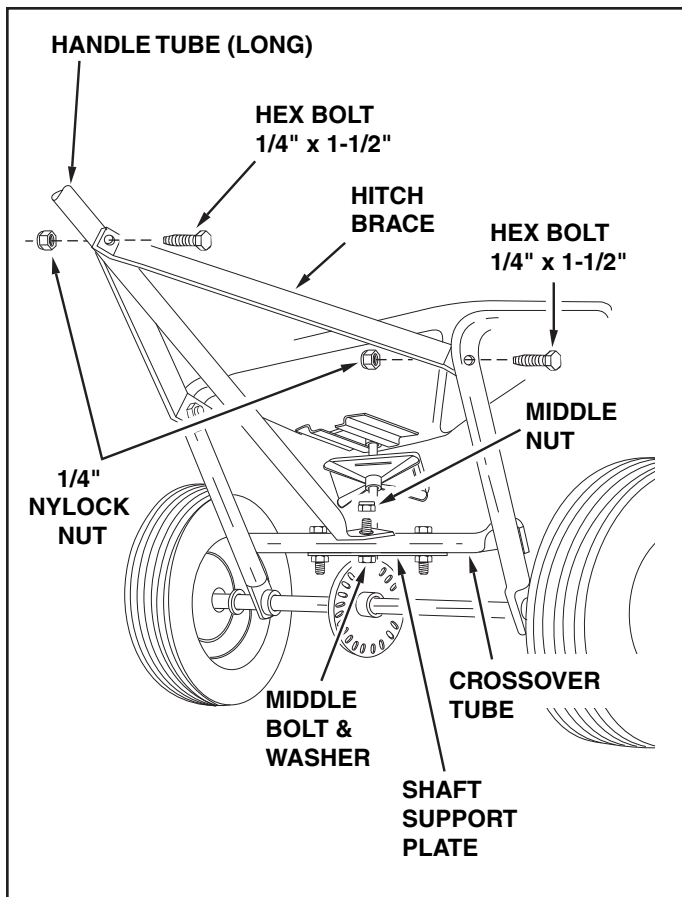

FIGURE 5
- Assemble two handle braces to the inside of the hopper frame, one on each side, using two 1/4" x 1-1/2" hex bolts and two 1/4" nylock nuts. See figure 5. **Do not tighten at this time.**
- Assemble the other end of the two handle braces to the long handle tube using a 1/4" x 1-1/2" hex bolt and 1/4" nylock nut. **Do not tighten at this time.** See figure 5.
- Tighten** all hex lock nuts and bolts in same sequence as assembled in steps 9 through 11. See figure 5.